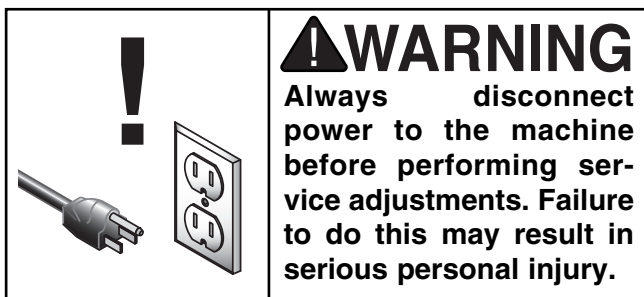

Figure 17. Motor brush.
2. Remove the motor brush caps with a flat-head screwdriver. One of the brushes is shown in **Figure 17**. The other is on the opposite side of the motor.